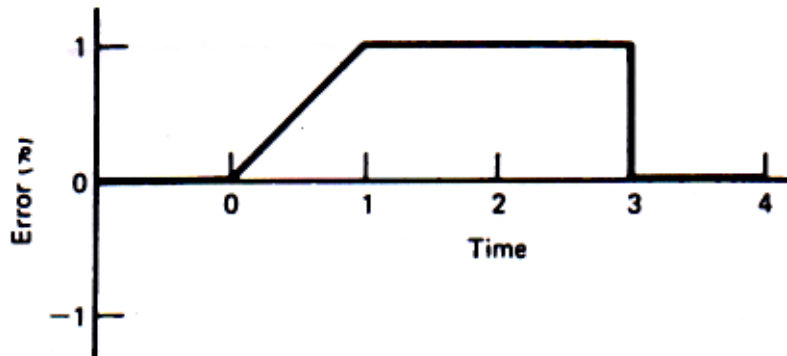

Figure 4
- Q9) a)** Figure 4 shows an error time graph. Sketch the PID controller (parallel form) output w.r.t. time. Assume $K_p = 10$, $K_i = 2$, $K_D = 0.5$ and $P_0 = 0$ i.e. the controller output is zero when the error is zero. **[10]**